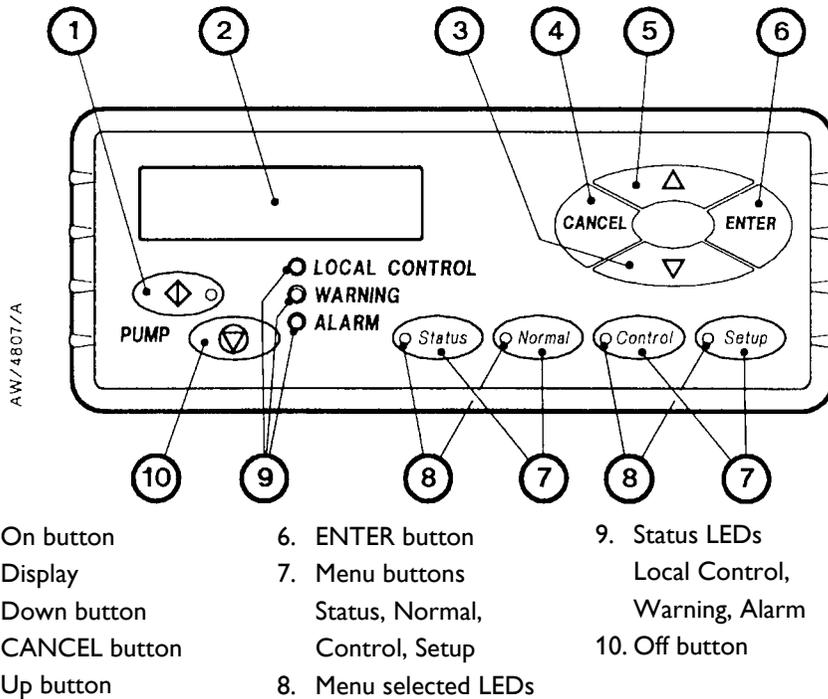

Figure 5 - Front panel of the pump display terminal
The PDT allows manual control of the IPUP E100 pump and also displays the pump status. Refer to Figure 5 which shows the front panel of the pump display terminal.
Use the On button (Figure 5, item 1) to switch on the IPUP E100 system. The On button has a LED which is on when the IPUP E100 system is on. Use the Off button (Figure 5, item 10) to switch off the system.
The display (Figure 5, item 2) shows two lines of text; each line is 16 characters long. In normal operation, the Normal display is shown; the Normal display has two pages, and each has two lines. Each page of the Normal display shows the status of one or more IPUP E100 system sensors or internal clocks and counters. As supplied, the first page of Normal display shows the pump serial number and pump current. It is possible to change the information shown on the Normal display.
At any time, press one of the four menu buttons (Figure 5, item 7) to select a new menu. Then use the up (Figure 5, item 5), down (Figure 5, item 3), ENTER (Figure 5, item 6) and CANCEL (Figure 5, item 4) buttons to move through the menu. The appropriate menu selected LED (Figure 5, item 8) is on when the corresponding menu is in use.
Use the menu (Figure 5, item 7), up (Figure 5, item 5), down (Figure 5, item 3), CANCEL (Figure 5, item 4) and ENTER (Figure 5, item 6) buttons as described below. Refer to Section 4 for a full definition of the menu structures and the display formats.
The status LEDs (Figure 5, item 9) show the current status of the IPUP E100 system and the Pump Display Terminal.